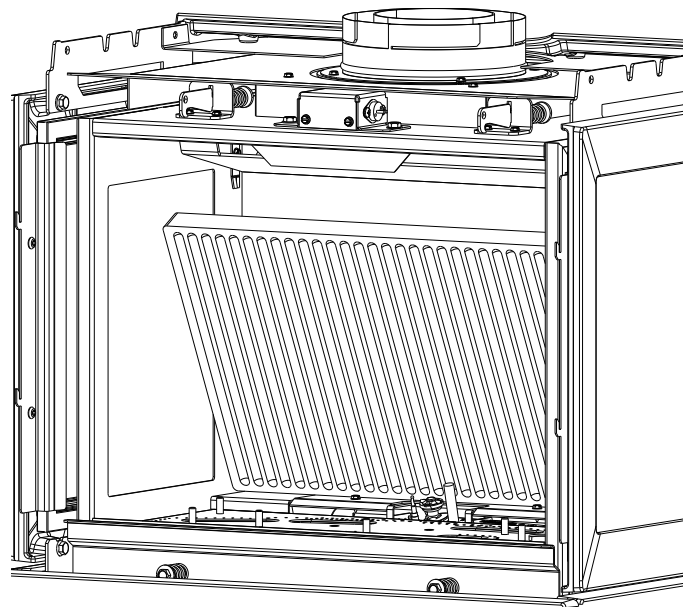

Figure 10.4. Install Panel.
2. Install the bottom of the panel first, then stand the panel against the rear wall of the firebox. See fig. 10.4.